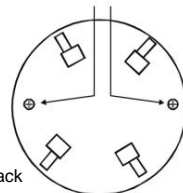

Fig. 3 Two screws on back of FDR smoke detector
The normal condition for the relay is "normally open" (NO). To remove top cover remove two screws on back of FDR-16/26/36 smoke detector as shown in Figure 3